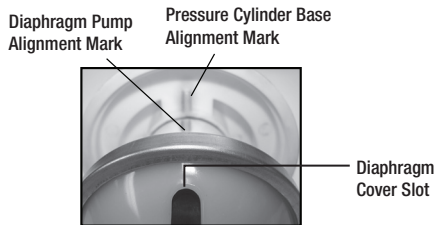

Figure 8
- 6) Align the diaphragm pump alignment mark with the pressure cylinder base alignment mark (fig.8). The slot in the diaphragm cover will also be in alignment.